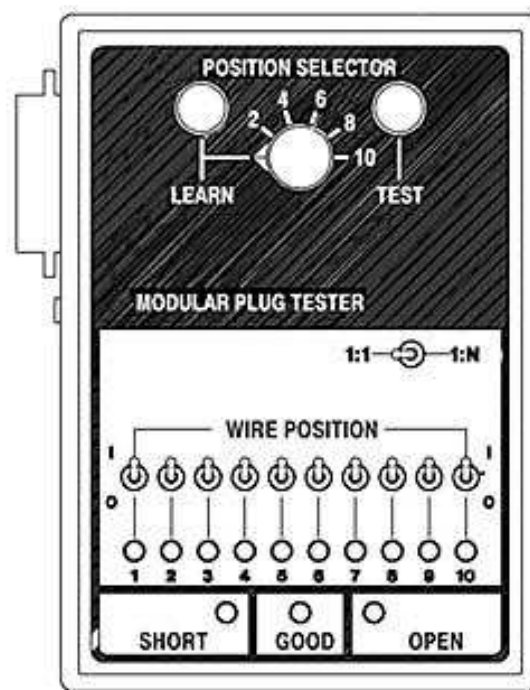

Figure 6
3. Set the tester switches in the following manner (see Figure 6):